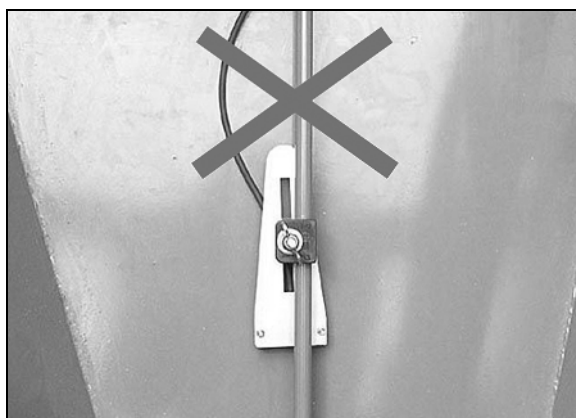

Fig. 92
- The machine working width (Fig. 92/1)
- Fine seed types, e.g. rape (Fig. 92/2)
- Grain and pulses (Fig. 92/3).